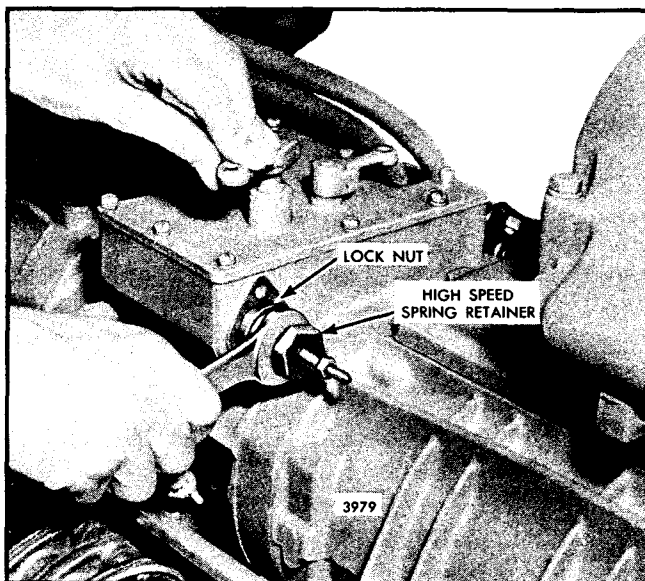

Fig. 8 - Adjusting Maximum No-Load Speed
1. Loosen the spring retainer lock nut (Fig. 8) and back off the high-speed spring retainer approximately five turns.